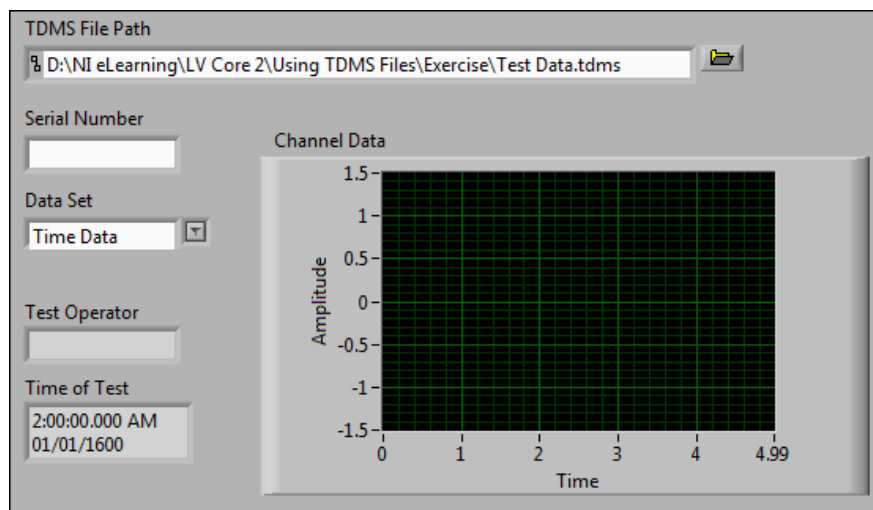

Figure 2. TDMS Reader Front Panel
- ☐ Arrange the front panel as shown in Figure 2.